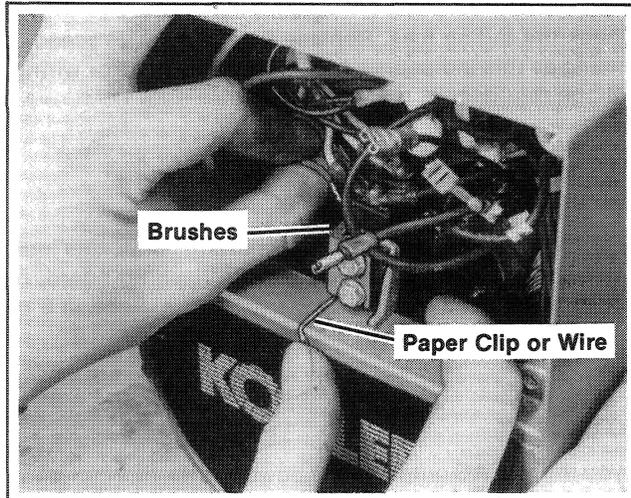

Figure 4-2. Raising Brushes
2. Raise the brushes from the slip rings and insert a length of wire or a paper clip. Figure 4-2.